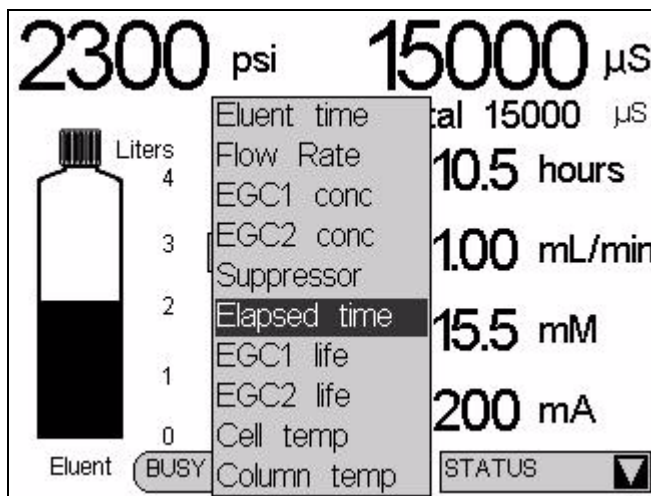

Figure B-12. Status Page Parameter List
2. Touch the down arrow next to the field you want to change. A list of the available status parameters appears (see Figure B-12).